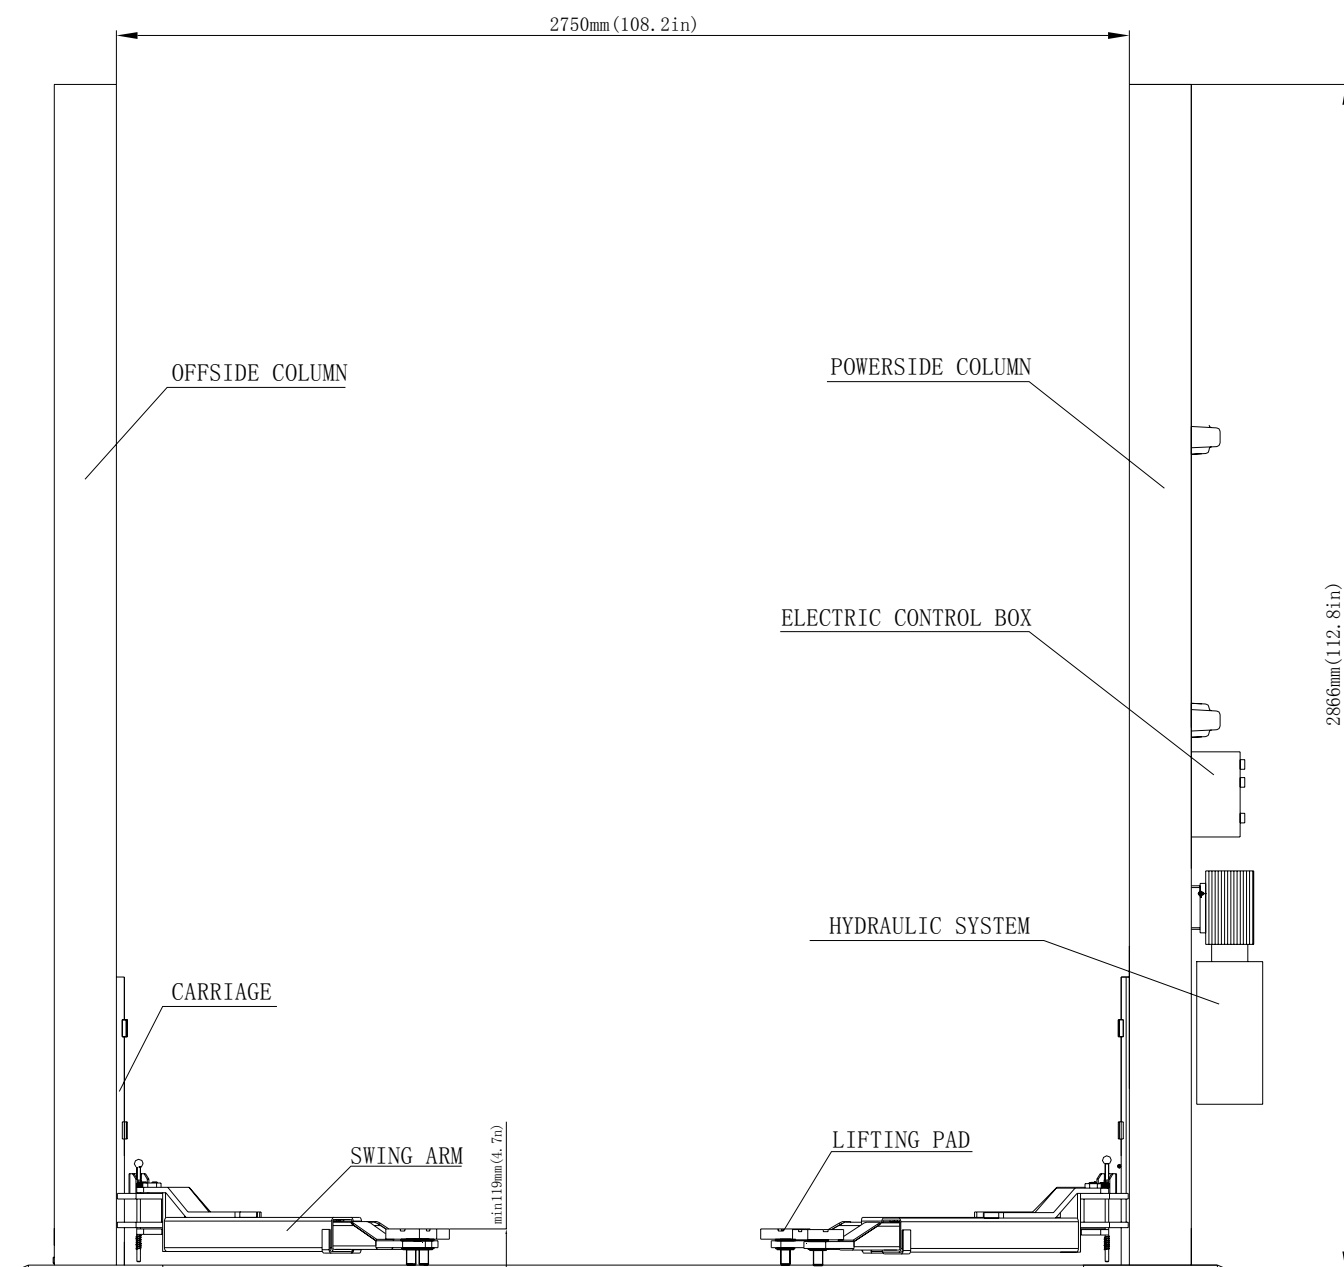
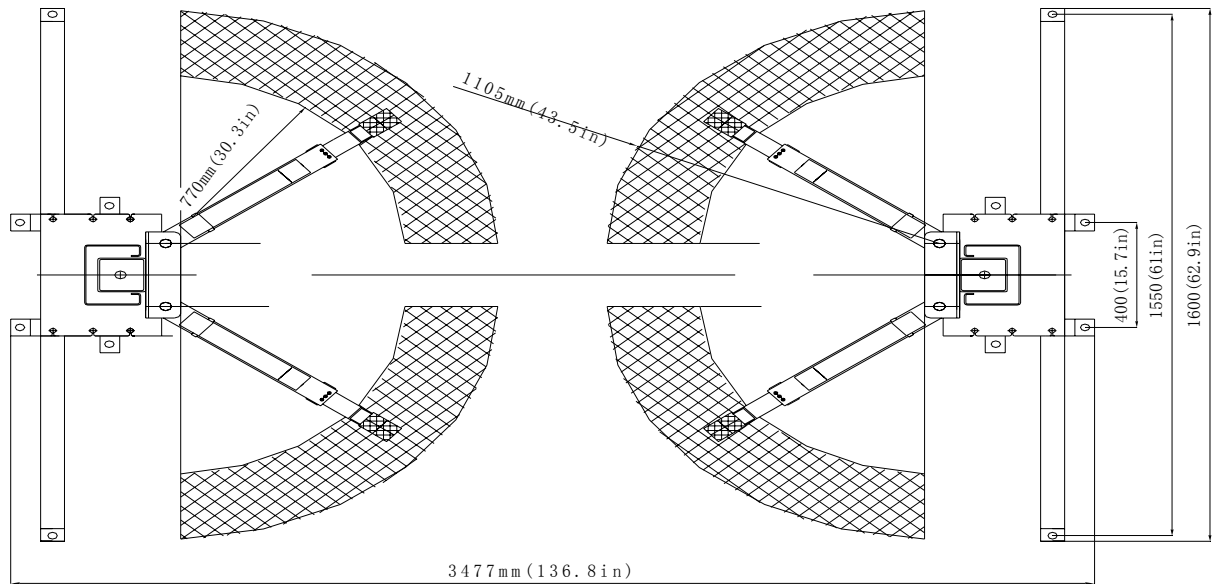

Fig. 1
Fig.2
The structure of QJY230B-E/QJY240B-E is as shown in Fig. 1 and Fig 2:
1. First column equipped, according to the end of shelf hole drilling. (As shown in Fig.2)